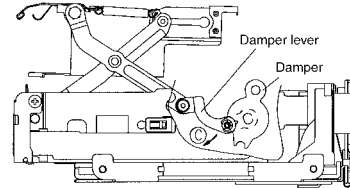

Fig. 2.
(2) Turn the damper lever in the arrow direction to release the engagement of the damper bar. (See Fig. 2.)